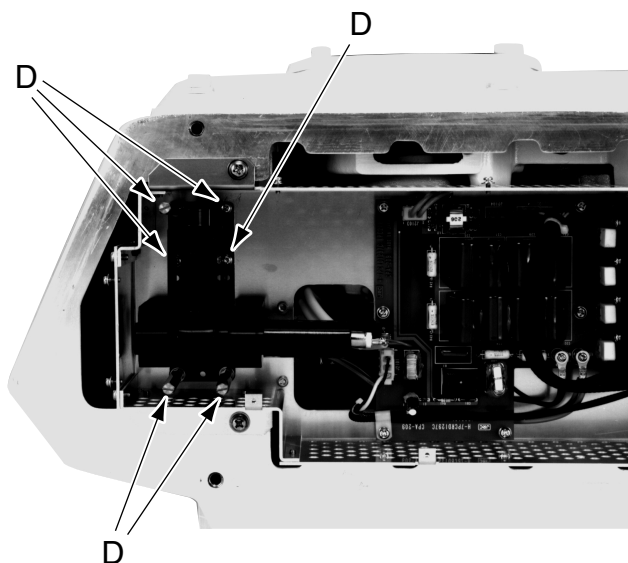

Fig. 8.7 Internal View of Modulator of 25kW Scanner Unit NKE-1056
- (3) Make sure that the modulating high voltage circuit has been discharged before removing the magnetron socket (see Fig. 8.7).
- (4) Remove the six D screws fixing the magnetron to remove the magnetron (see Fig. 8.7).
- (5) For remounting the magnetron, follow the opposite procedure.